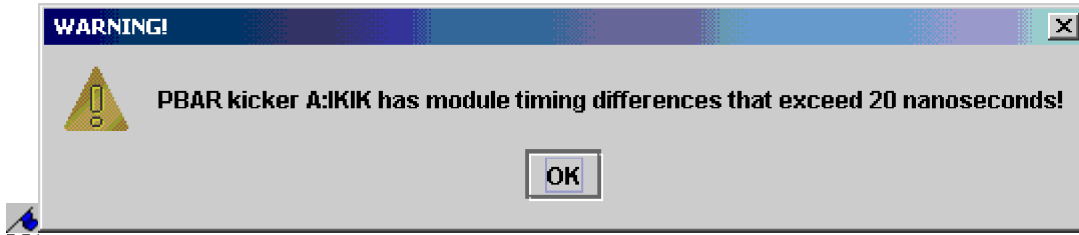

Figure 33:
13. If any tuning changes are required, you will get a popup window, as shown in Figure 33, that states that A:IKIK has timing module differences that exceed 20 nanoseconds. If all of the kicker times are within 20 nanoseconds then skip ahead to Step 17 of this procedure.